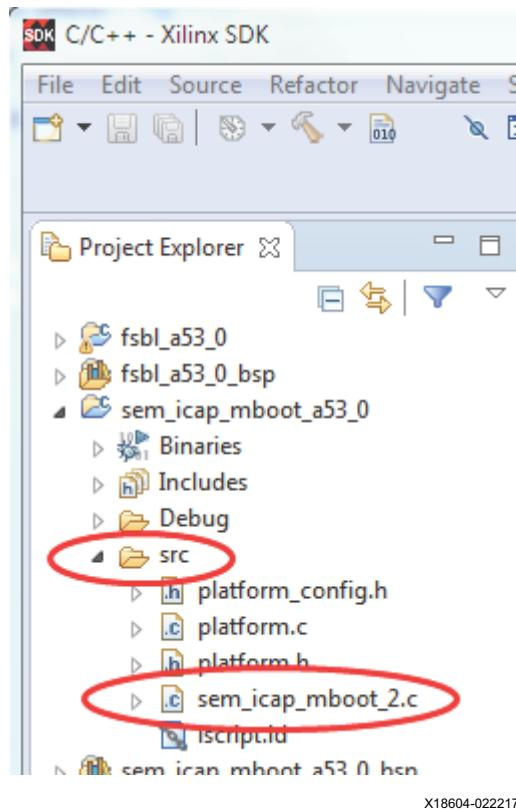

Figure 26: Design 2 - Project Explorer
- e. Right-click the **src** directory. Select **Refresh** so the copied file appears. See Figure 26.